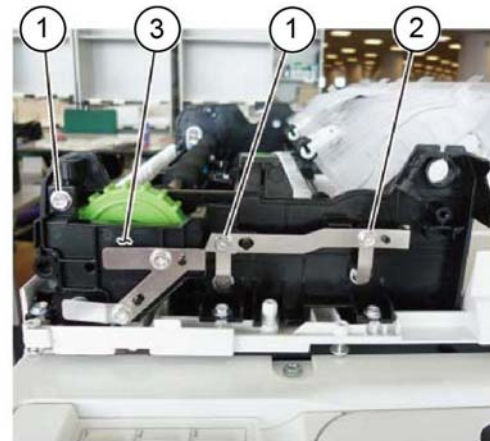

Figure 5 Front bracket removal
12. Remove the front bracket and ground roll plate, Figure 5:
- a. Remove two screws (1).
- b. Loosen the screw (2).
- c. Remove the front bracket and ground roll plate (3).